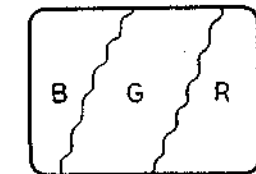

Fig. 4-3.
7. Unsolder red and blue leads on the T board. The screen should appear as shown in Fig. 4-3.